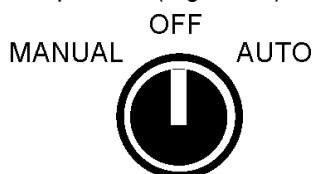

Figure 20. Manual-Off-On SW. (OFF Position)
1. Place the 3-position operation switch on the control box in the **OFF** position (Figure 20).